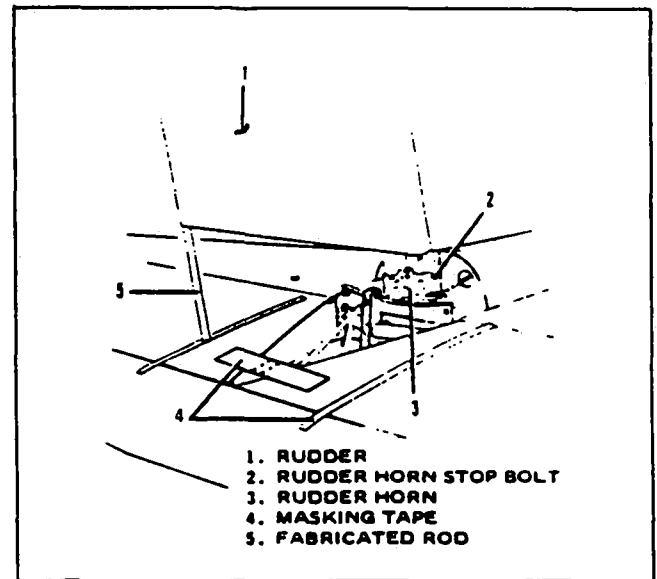

Figure 5-13. Checking Rudder Travel
4. With the small rod attached to the trailing edge of the rudder, swing the rudder in both directions to determine that the pointer intersects the inboard edge of the tapes. (Refer to Figure 5-13.)